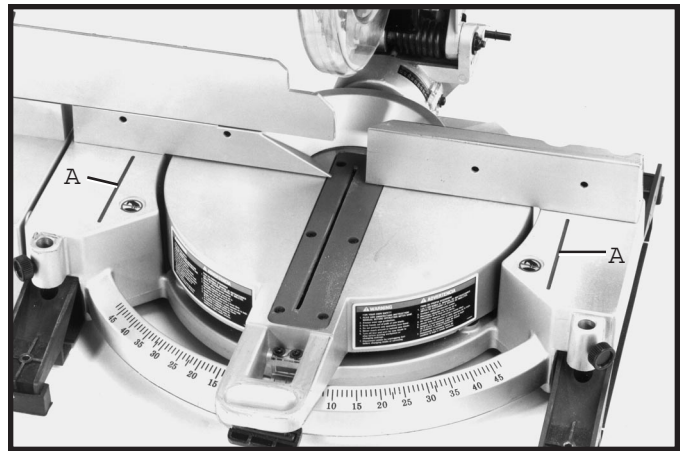

Fig. 23
WARNING: THE AREA INSIDE THE TWO RED LINES (A) FIG. 23, ON THE TABLE IS DESIGNATED AS A HAZARD ZONE. NEVER PLACE YOUR HANDS INSIDE THIS AREA WHILE THE TOOL IS BEING OPERATED.